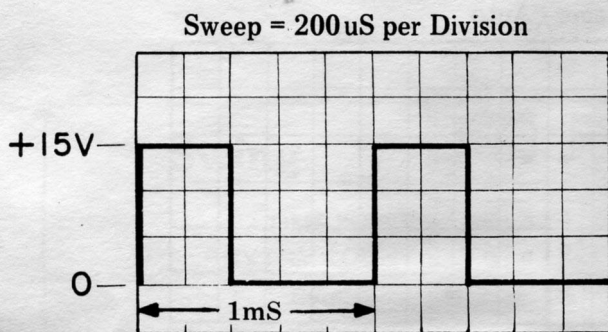

Fig. 7 - Determining Frequency
- 2) In Figure 7, a cycle of the waveform takes five divisions. The sweep is set for 200 microseconds per division. The time required for a single cycle is $200\mu S \times 5 \text{ divisions} = 1000 \text{ microseconds} = 1 \text{ millisecond} = .001 \text{ second}$.